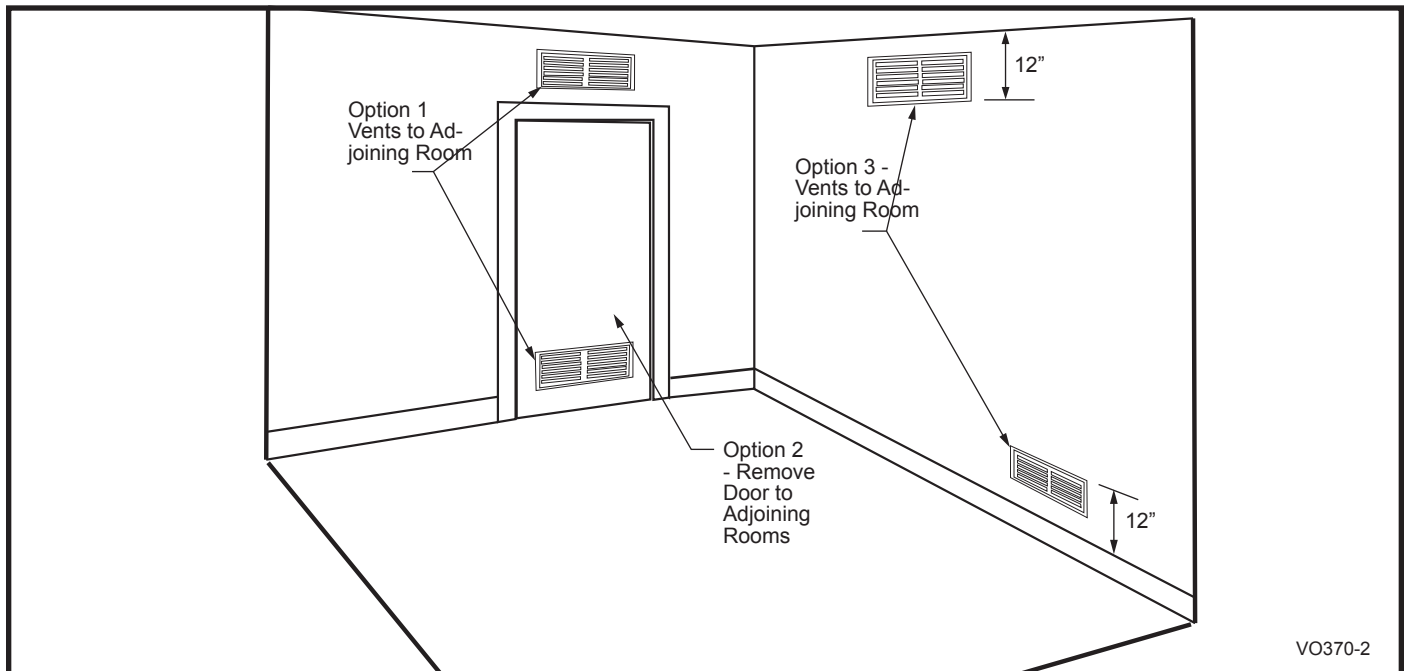

Fig. 4 Vent options to provide additional air.
**A)** Open up or provide at least two ventilating grilles to an adjoining unconfined space. Use any of the options illustrated in Figure 4.